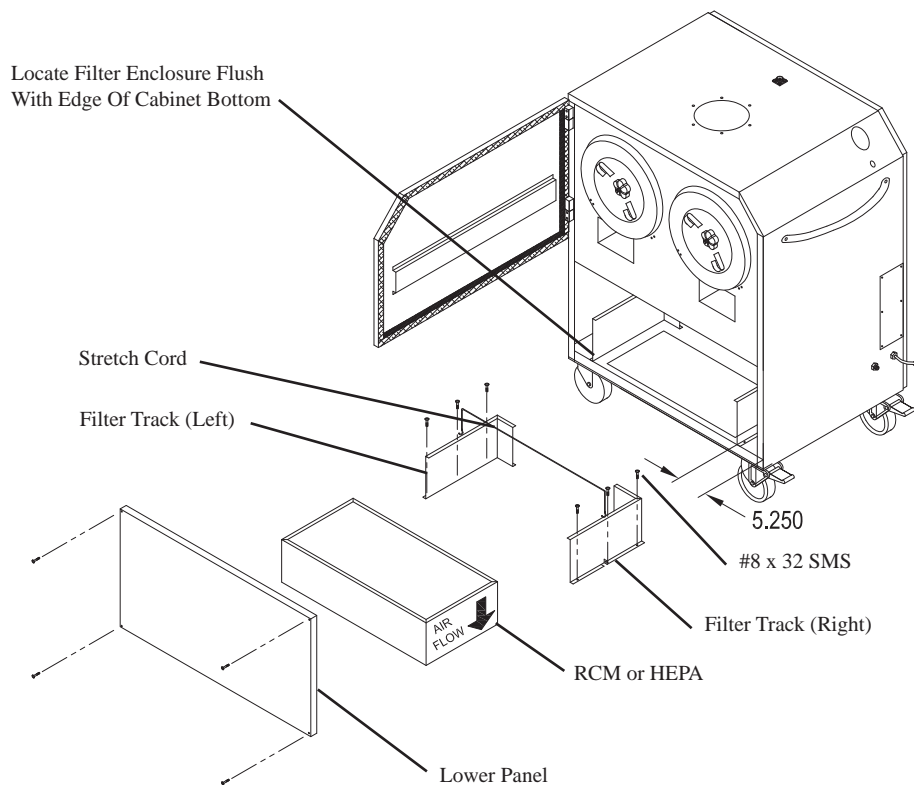

Fig. 2
1. Remove the four (4) screws used to attach the lower panel and remove lower panel from the TM1000.
3. Locate filter tracks shown in Fig. 2. Filter tracks are to be located flush to front edge of cabinet bottom and centered above the exhaust opening (align filter track over pre-punched holes).
4. Secure filter tracks to the TM1000 using six (6) each #8 x 1/2" sheet metal screws provided.